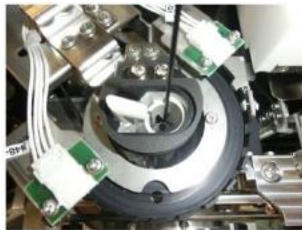

Figure 3.11 Home Position (X)
- Select at Position name to adjust **"(1/3) Home Position (X)"**
- Perform Pulse Adjustment so that the paddle is in the middle of the BM Washing Station. (Figure 3.11). The paddle must not touch the inner walls of the wash station.